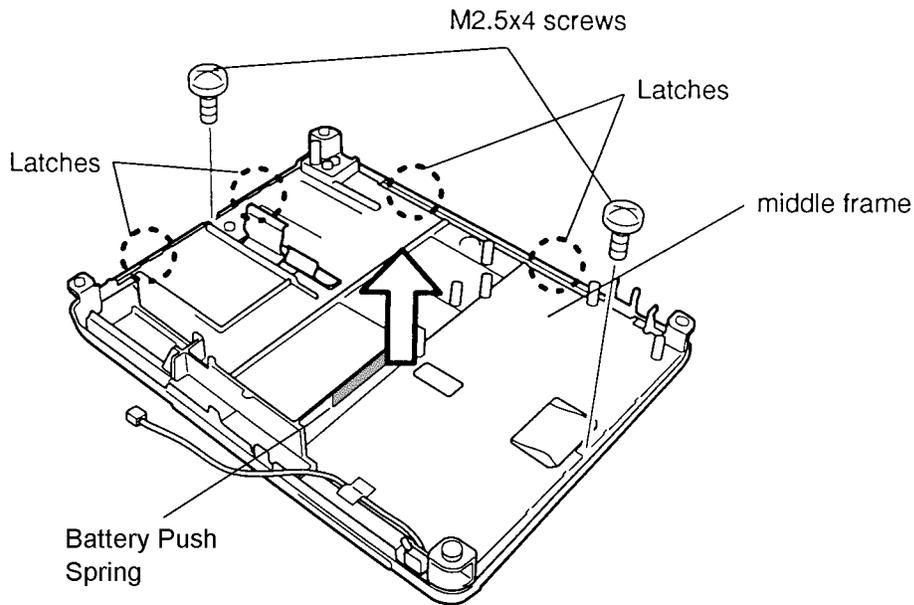

Figure 4-17 Removing the T200 Base Frame
To remove the T200's tablet, follow the steps below and refer to Figures 4-17 through 4-19.
3. Remove the **two M2.5x4 screws** securing the **middle frame** (Figure 4-17).
4. Note the position of the battery push spring, then unsnap the **four latches** securing the **middle frame** to the display module, and carefully lift off the **middle frame** (Figure 4-17).
To install the computer's tablet, follow the steps below and refer to Figures 4-17 through 4-19.
2. Place the **middle frame** on the display module and make sure that the cabling is covered, then snap the **four latches** into place (Figure 4-17).
3. Secure the **middle frame** with the **two 2.5x4 screws** (Figure 4-17).